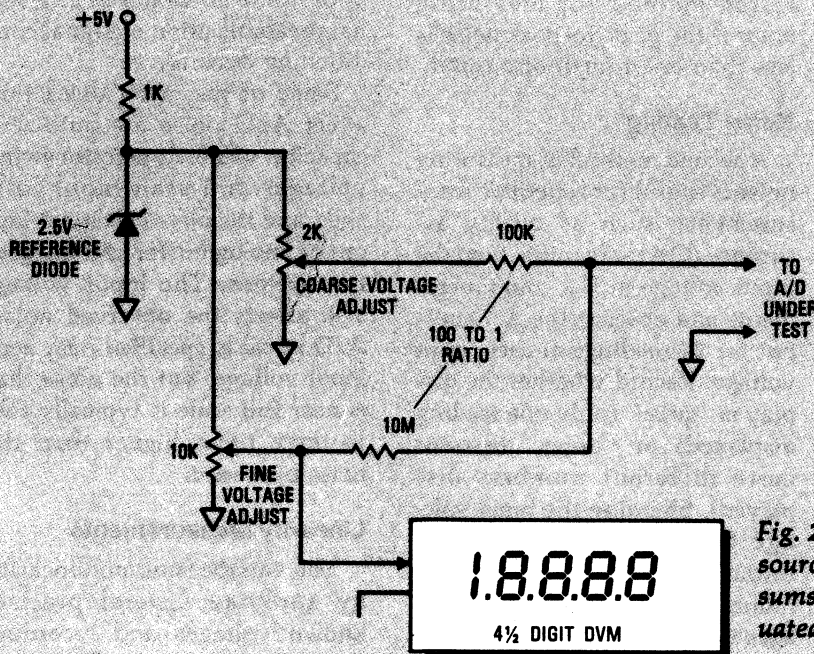

Fig. 2. This high-resolution voltage source for testing A/D converters sums a coarse voltage with an attenuated "dither" source.
Whenever the output voltage drops below 4.65 V, an external delay capacitor, optionally connected to the chip's Reset Delay pin (RD), discharges rapidly, sending  $\overline{\text{OVV}}$  low (Fig. 2). When the regulated output returns to 5 V, the delay capacitor recharges slowly; when its voltage finally hits 8 V,  $\overline{\text{OVV}}$  goes high. The
A high-resolution input-voltage source is required to measure A/D noise. This voltage source must also have good short term stability but need not be a high-accuracy source. A 6½-digit voltage calibrator, if available, makes an ideal source. However, you can also make an acceptable input voltage source by summing a coarsely-adjusted voltage source with an attenuated "dither" voltage (Figure 2).
Some battery-powered systems, however, call for short bursts of high current. The extra circuitry designed to meet that need (Fig. 2) converts  $-3$  V to  $+5$  V in the buck-boost or flyback mode (see "Dc-dc Converter Configurations," p. 178).